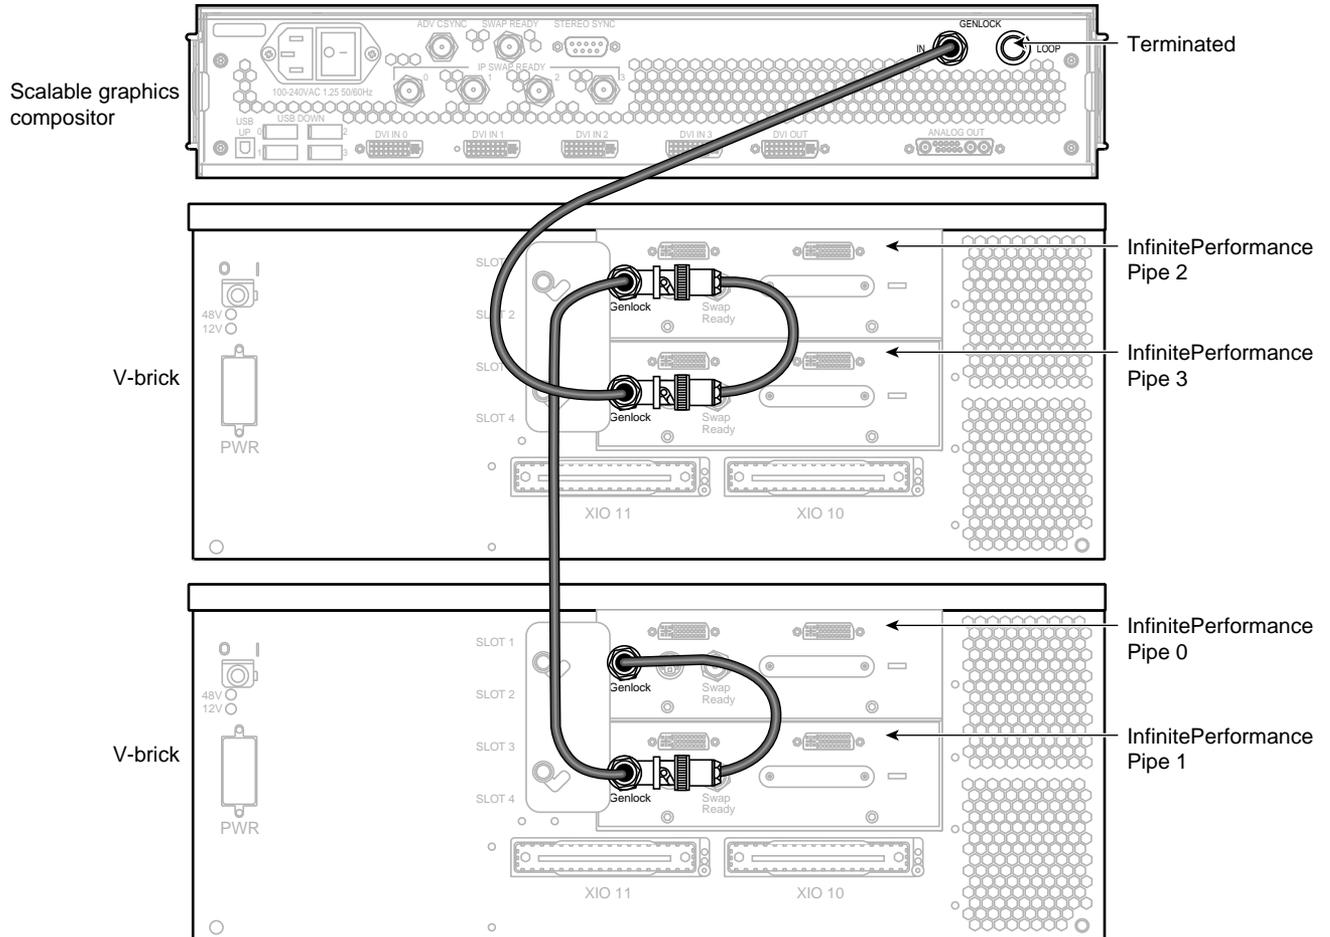

Figure 2-13 Connecting the Genlock Connectors
6. Using the 75-ohm BNC cables and BNC L connectors, daisy-chain the InfinitePerformance genlock connectors to each other in the following order (as shown in Figure 2-13): pipe 0 to pipe 1, pipe 1 to pipe 2, pipe 2 to pipe 3, and pipe 3 to GENLOCK IN.